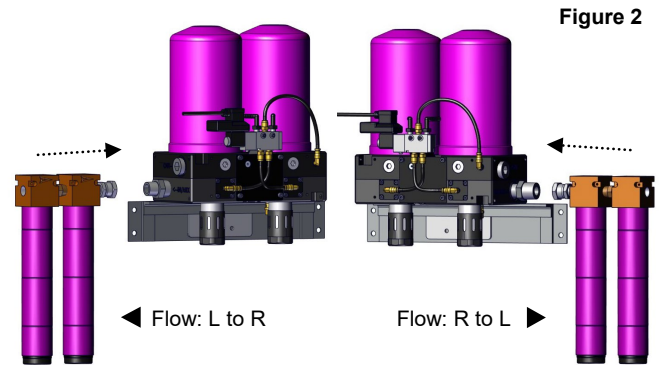

Figure 2
4. Install the supplied FEMALE JIC fitting to outlet port of the Tsunami pre-filter assembly. Use appropriate thread sealant. *Figure 2*
6. Using the appropriate thread sealant, install the MALE JIC connector to either the left or right INLET / AUX port of the dryer. *Figure 2*